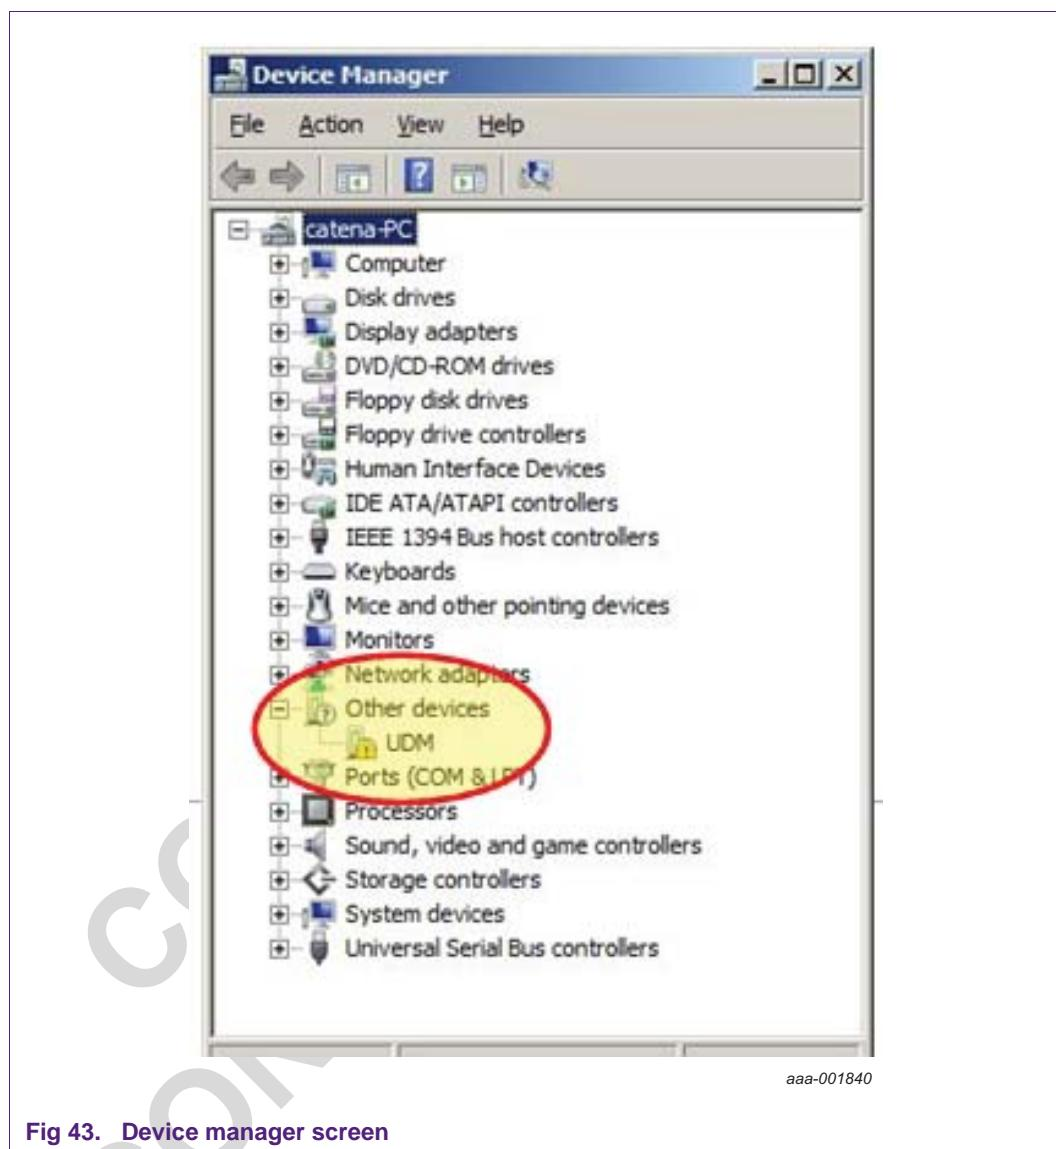
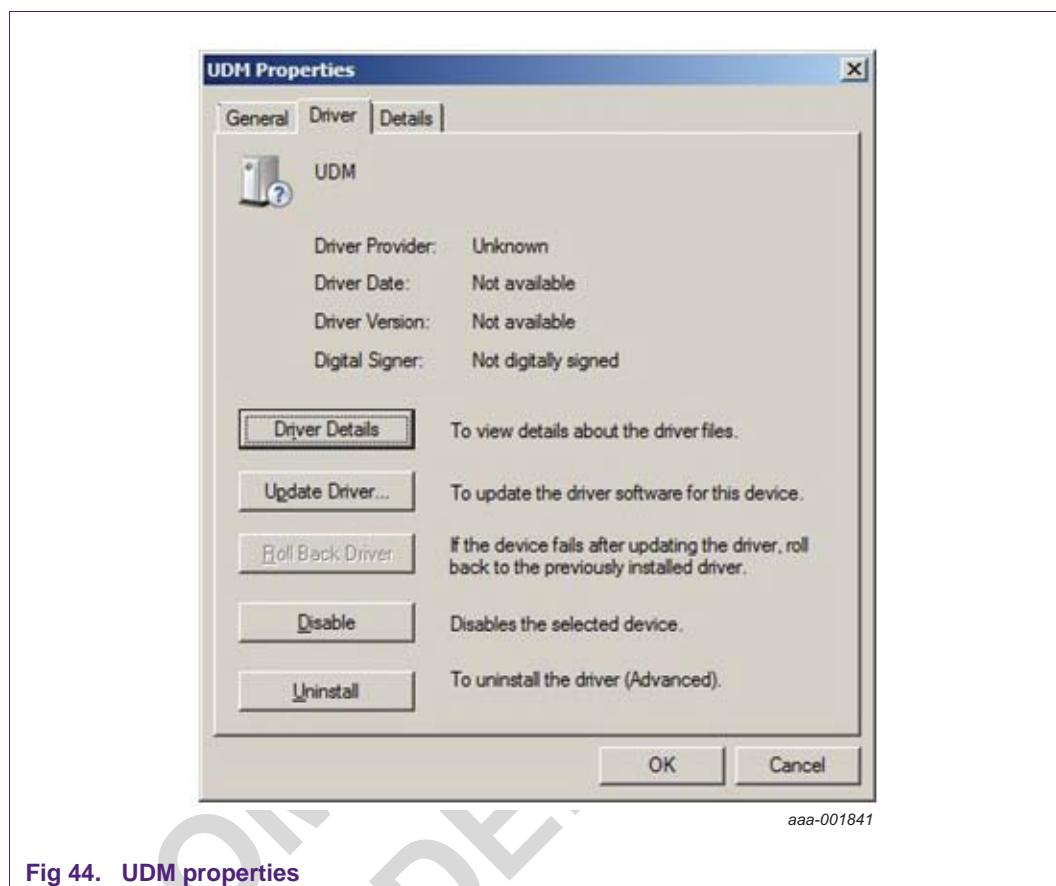

Fig 43. Device manager screen
Fig 44. UDM properties
- Proceed to Control Panel and select the Device Manager (see Figure 43).
- Double-click the UDM link (see Figure 43) to enter the UDM properties page (see Figure 44).